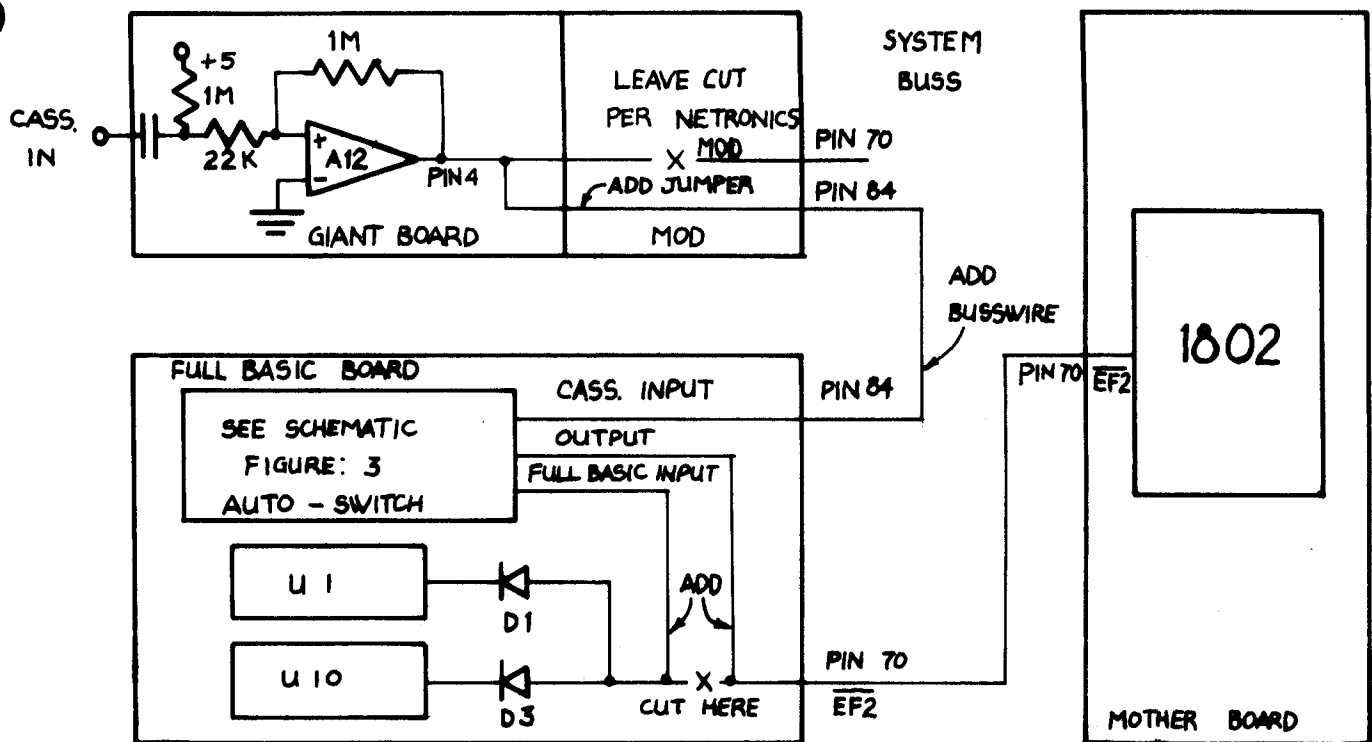
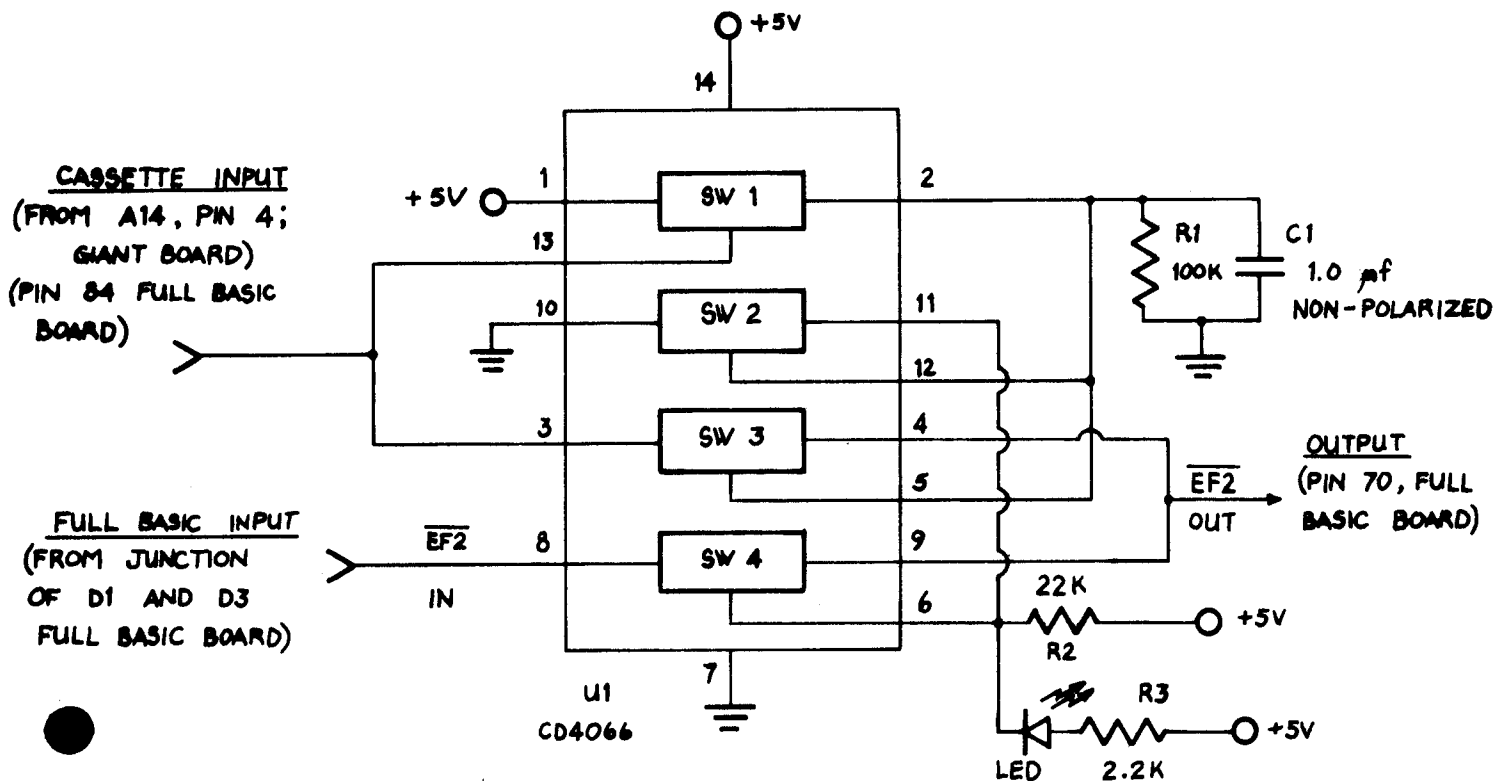

FIGURE 2: SYSTEM WITH AUTO-SWITCH MOD
FIGURE 3: EF2 LINE AUTO-SWITCH
Figure 2 is a block diagram of the system where the Full BASIC GIANT BOARD modifications are removed and the Auto-Switch modifications added to the Full BASIC board. This circuit (Figure 3) is essentially an automatic switch that connects either the cassette read or the Full BASIC EF2 signals to the buss. The basic circuit consists of four components; U1 CD 4066 (quad bi-lateral switch), R1, R2, and C1. R3 and the LED are optional.
The circuit shown in Figure 3 may be readily added to the Full BASIC P.C. board in the area reserved for user hardware in the lower right hand corner of the board. The following modifications are necessary.
- 5) Wire up the Auto-Switch circuit as shown in Figure 3.
- 6) The total system should now be wired as shown in Figure 2.